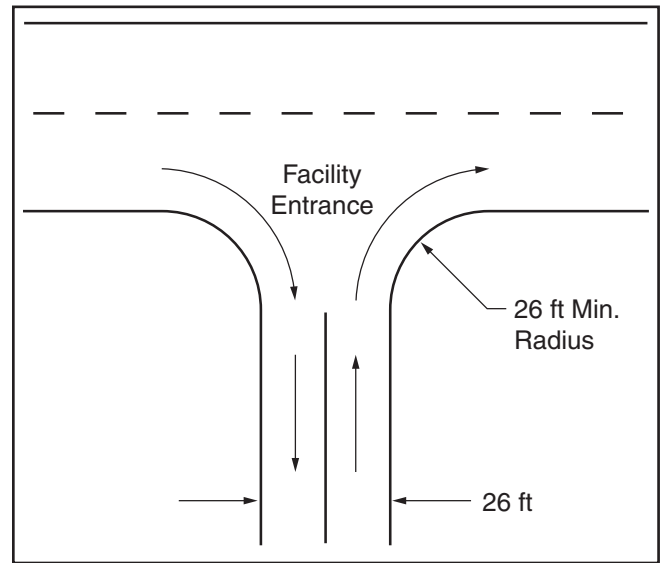

Figure 4
- Right-angle turns onto the site that have a minimum inside radius of 26 ft and a minimum outside radius of 50 ft (Figure 4)
- One-way access roads that are 13 ft wide minimum (Figure 4)
- Two-way access roads that are 26 ft wide minimum (Figure 4)